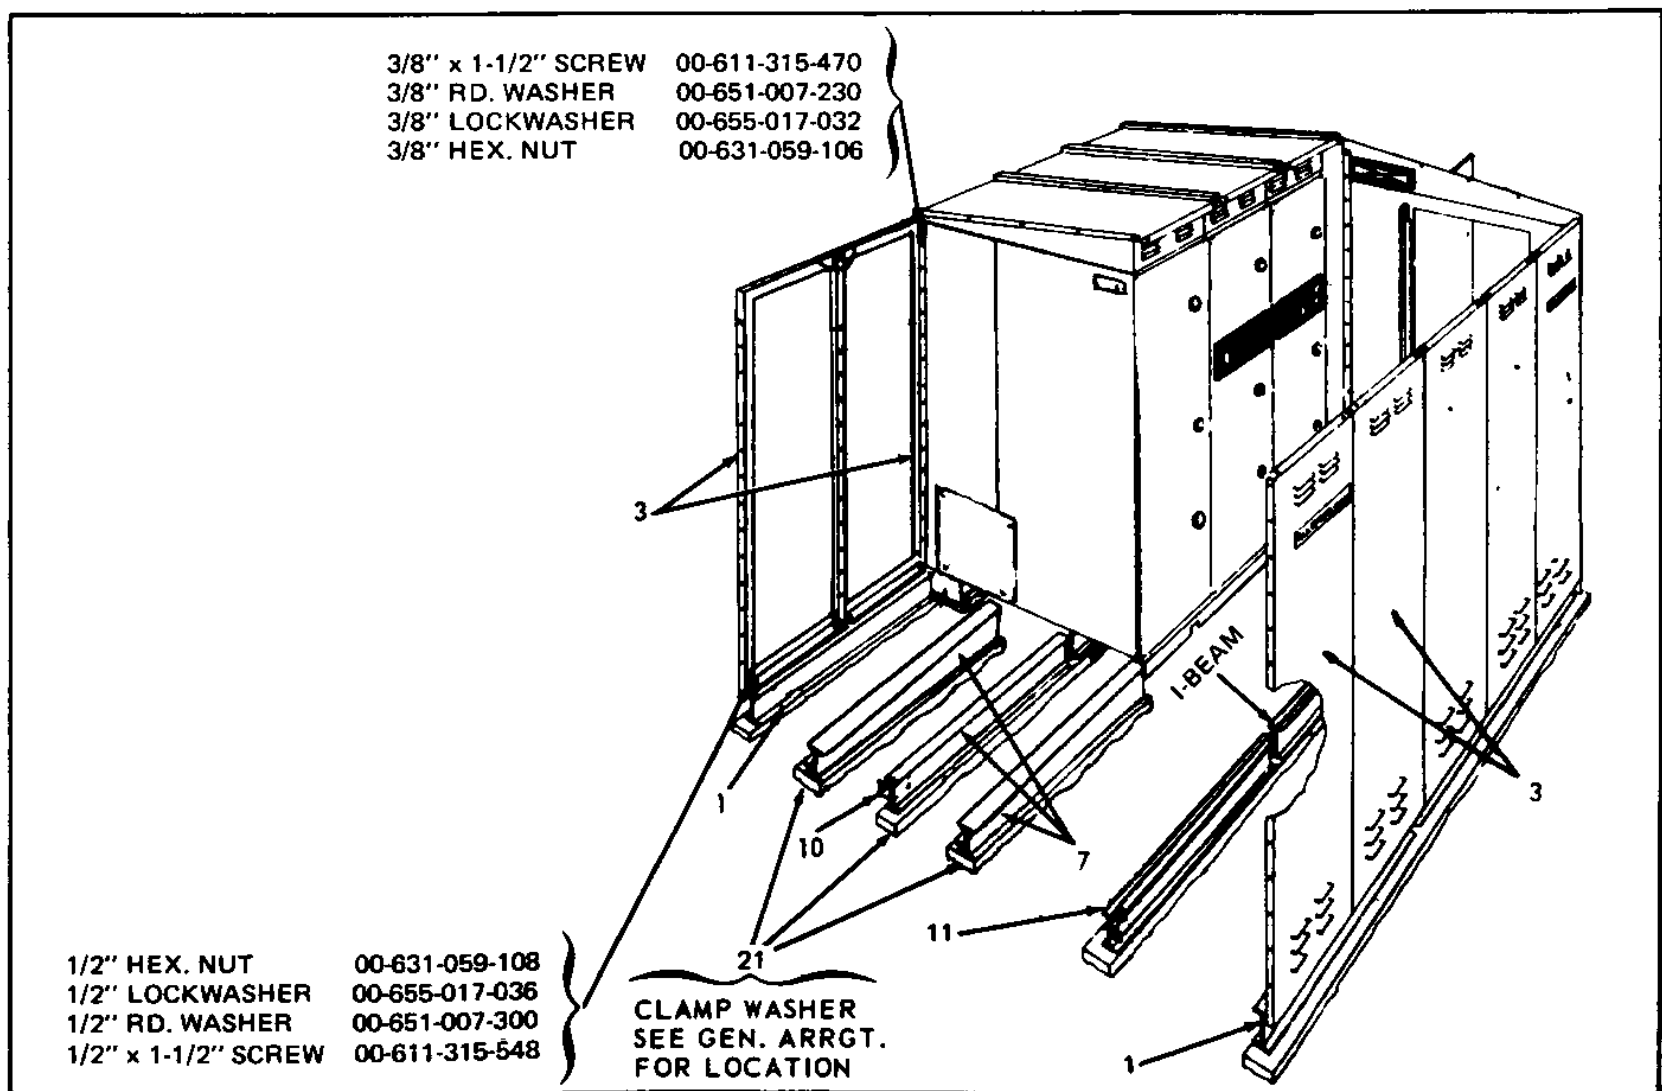

Figure 41. Beam Placement (15 KV) – Single Aisle with Work Space
5. See Figure 41. Put the work aisle and work